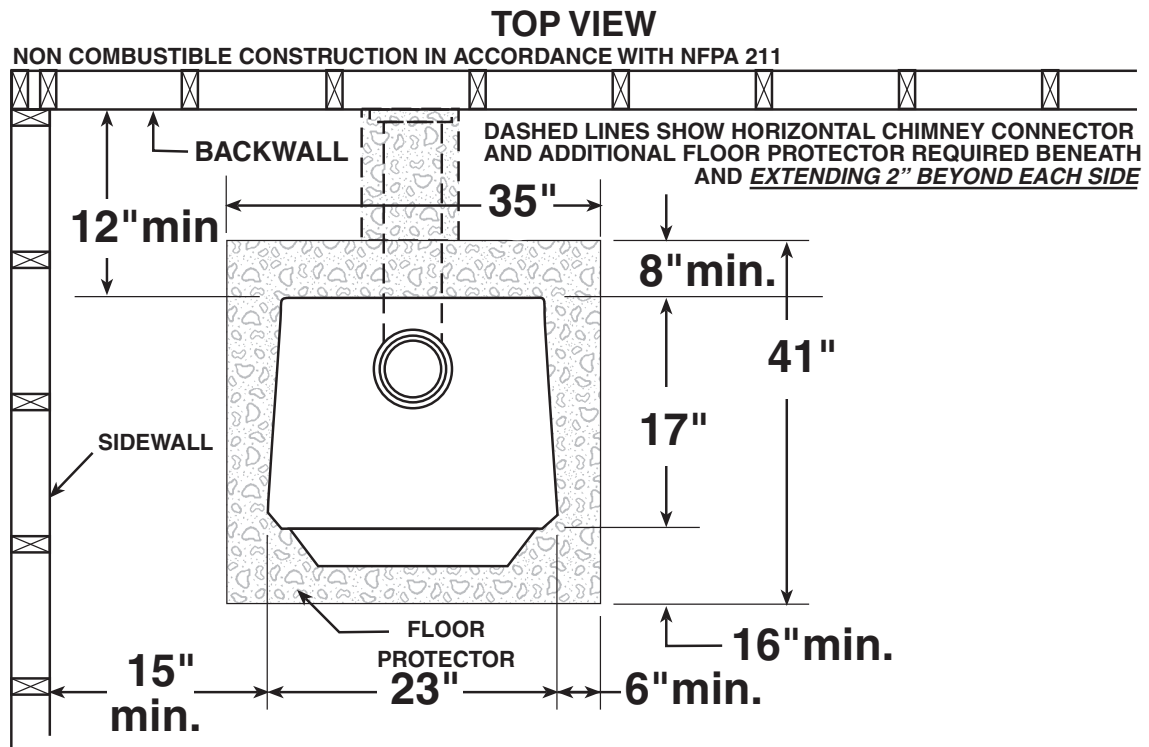

Fig. 1 – TOP VIEW Minimum Clearance Dimensions from Combustible Surfaces
1. The installation of this stove must comply with your local building code rulings. Please observe the clearances to combustibles (see reference figures 1–3). Do not place fuel, furniture or any other objects within the clearance area.
3. **DO NOT** store wood, kindling, flammable liquids or other combustible materials in the vicinity of the appliance. Refer to certification label on back of unit and reference figures 1–3 in this manual.
9. **DO NOT CONNECT A WOOD BURNING STOVE TO AN ALUMINUM TYPE B GAS VENT.** This is not safe. Use approved masonry or an Underwriters Laboratories Listed UL 103 HT (US)/ULC-S629 (CDN) Residential Type and Building Heating Appliance Chimney. Use a 6~/152mm diameter chimney, that is high enough to give a good draft. (See specifics in Chimney Connections instructions).
1. The stove must be placed on solid concrete, solid masonry, or when installed on a combustible floor, on a UL1618 Type 2 listed floor protector, such as Hy-C or Imperial Model UL 3648BK or equivalent with 0.8 R-factor. (NOTE: to calculate R-value of alternative materials see page 19). The base must extend at least 16" beyond the front of the access door, 6" to the sides of fuel opening, 8" to the rear of stove and must extend under and 2 inches beyond either side of the stove pipe if it is elbowed towards a wall. (See figures 1 & 3 and consult local building codes and fire protection ordinances). A grouted ceramic floor tile meeting R-values above and installed per local building code is considered a durable equivalent.
CAUTION: FIRE HAZARD CARPETING AND OTHER COMBUSTIBLE MATERIAL SHALL NOT COVER THE FLOOR PROTECTOR. THESE MATERIALS MUST REMAIN OUTSIDE OF COMBUSTIBLE CLEARANCES, SEE FIG. 1 – 3.
3. After observing the clearances to combustible materials (figures 1–3), locate your floor protector accordingly (figure 1) and carefully place the stove in your selected location. Install stove pipe, elbows, and thimble as required, utilizing either a recently cleaned and inspected 6" masonry chimney or a 6" i.d. listed chimney.
- Recheck clearances from the stove, connector stove pipe, and corner clearances using the illustrations in figures 1–3 and your local building codes or fire protection ordinances.